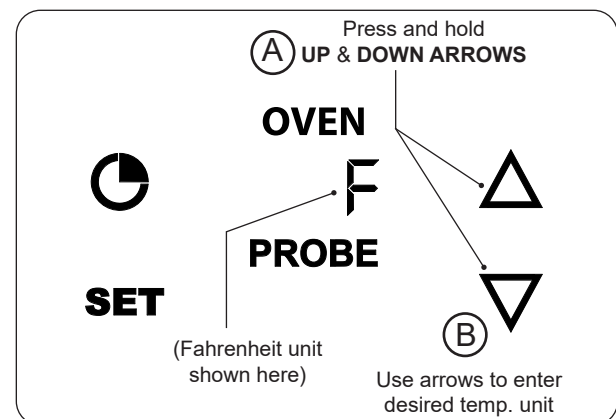

Fig. 40-4 Change temp. unit
1. Press and hold the **UP** and **DOWN** arrows until °F or °C is displayed (Fig. 40-4, A).
2. Press the **UP** or **DOWN** arrow to select the desired temp unit (Fig. 40-4, B).